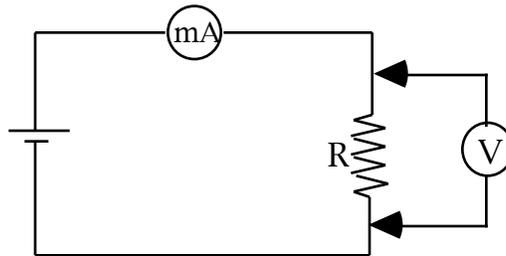

Figure 1.
1. Construct a circuit as shown in Fig. 1: